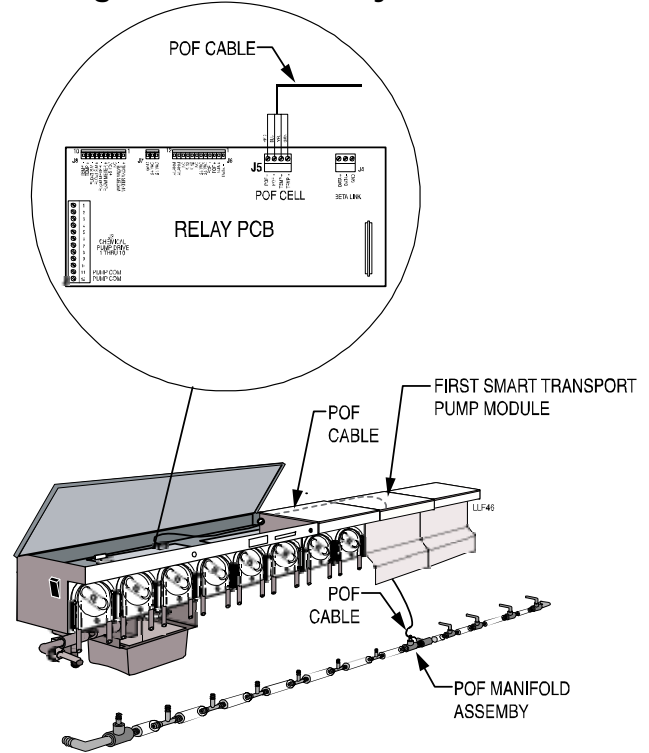

Figure 8.5. Wiring the POF Assembly
2. Route the POF cable up through the motor wire hole in the first smart transport pump module as shown in Figure 8.5.